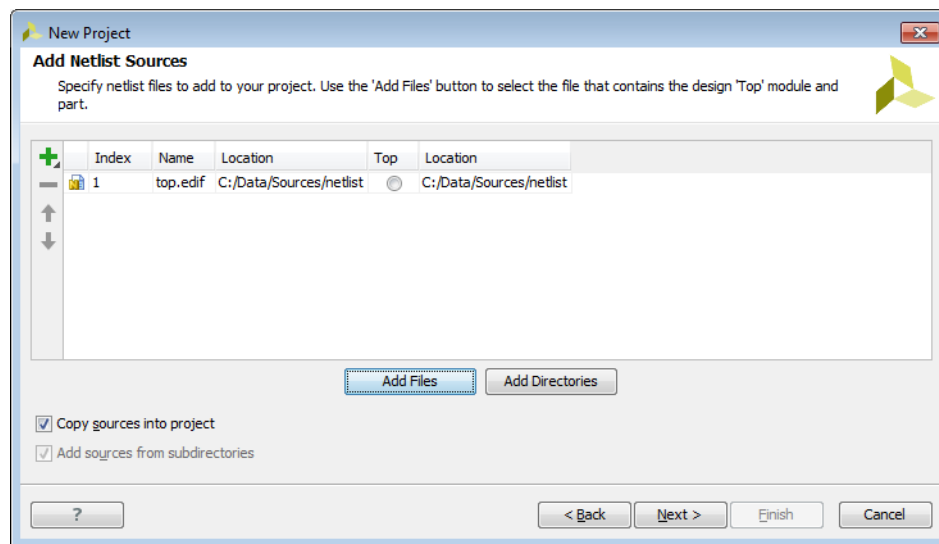

Figure 2-8: New Project Wizard—Add Netlist Sources Page
3. In the Add Netlist Sources page (Figure 2-8), use the following options to specify netlist files to read, identify the file containing the top module, and define directories to search for lower-level module netlist, and click **Next**.